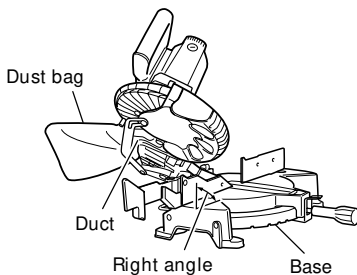

Fig. 3
- (2) During bevel and compound cutting, attach the dust bag at a right angle to the base surface as shown in **Fig. 3**.